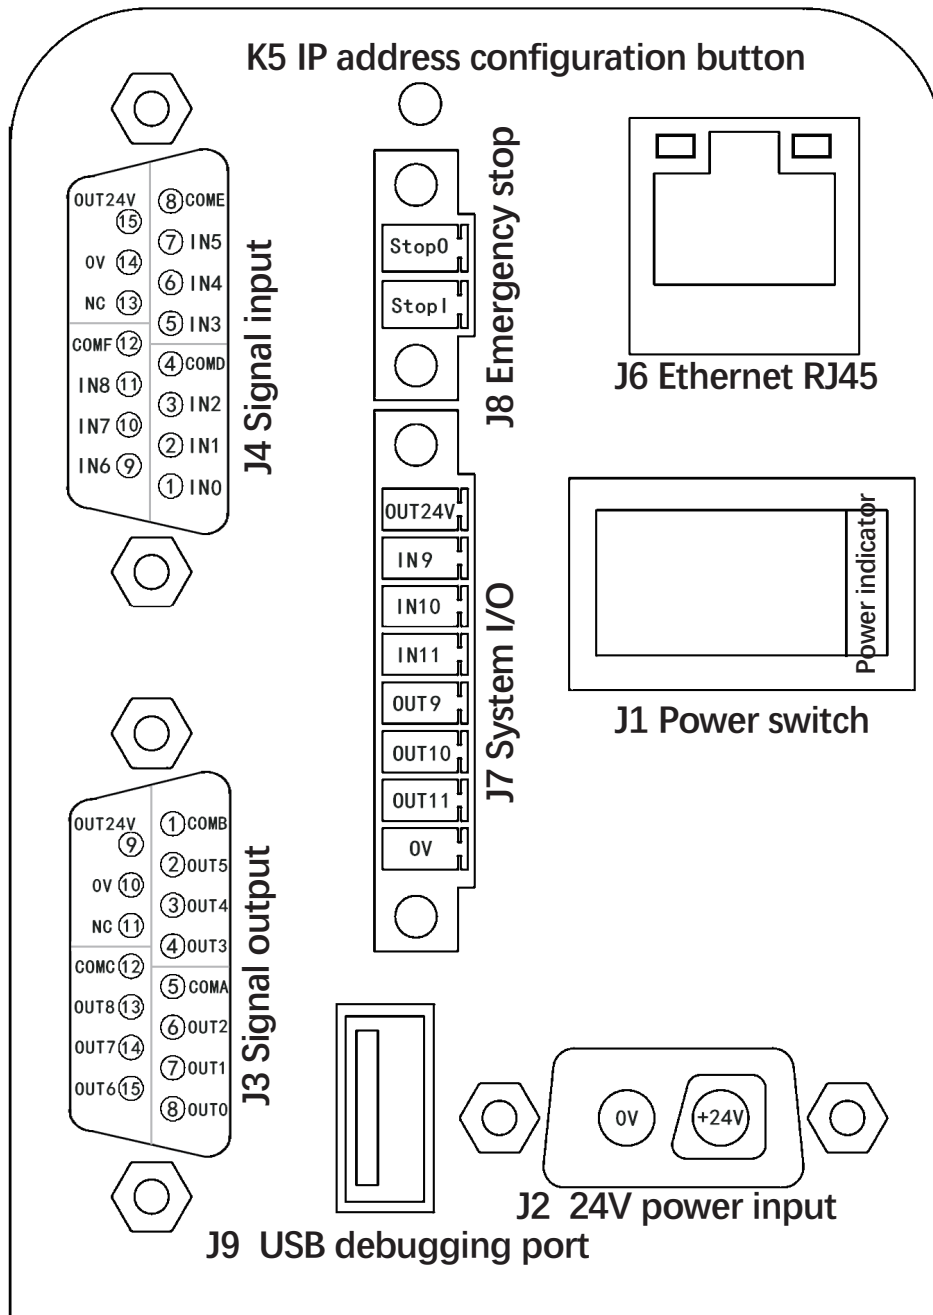

Figure 1
1. General diagram of the base interface A (shown in Figure 1)
2. Figure 1 interface definition description